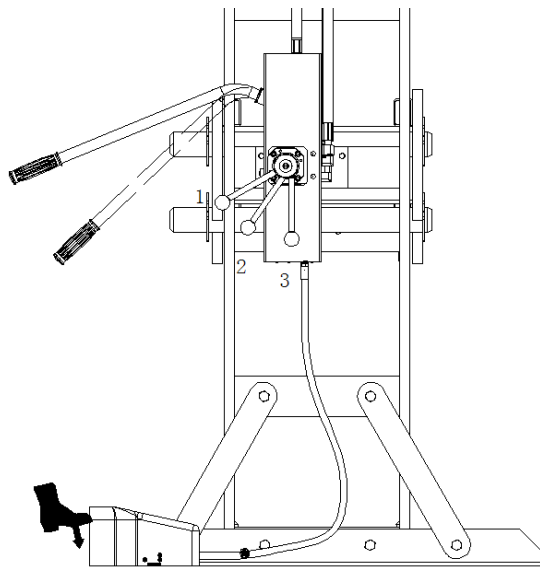

Fig.17
- 2. Turn the handle lever of selector valve to position 3. (fig 17)**
- 3. Depress the air foot valve (32), when the piston rod is not under load, then the piston rod extending quickly. When the piston rod is under load, then the piston rod will extend slowly.**
- 1. Insert the handle (26) to the handle base(P43), Turn the handle lever of socket valve to position 3. (fig 17) when the piston rod is not under load, then the piston rod extending quickly. When the piston rod is under load, then the piston rod will extend slowly.**
- 2. Turn the handle lever of selector valve to position 1. (fig 17)**
- 3. Depress the air foot valve (32), then the piston rod returns quickly.**
- 1. Insert the handle (26) into the handle base(P43), pumping the handle returns the piston rod quickly.**
- 3. To stop the movement of the piston rod: stop pumping the handle tube (26) or release the air foot valve (32), the piston rod will stop moving. Then turn the handle lever of selector valve to position 2. (fig 17)**